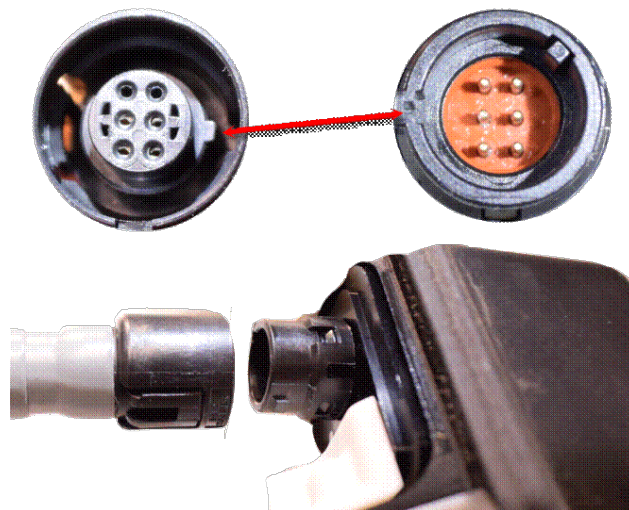

Figure 4. When installing the new reverse camera harness onto the camera assembly, ensure that the connectors are correctly aligned.
5. Carefully install the new reverse camera harness onto the camera assembly, as the harness can only be installed one way. The connector is keyed on both the camera and the electrical harness to prevent incorrect installation. Ensure they are correctly aligned during installation (Figure 4).